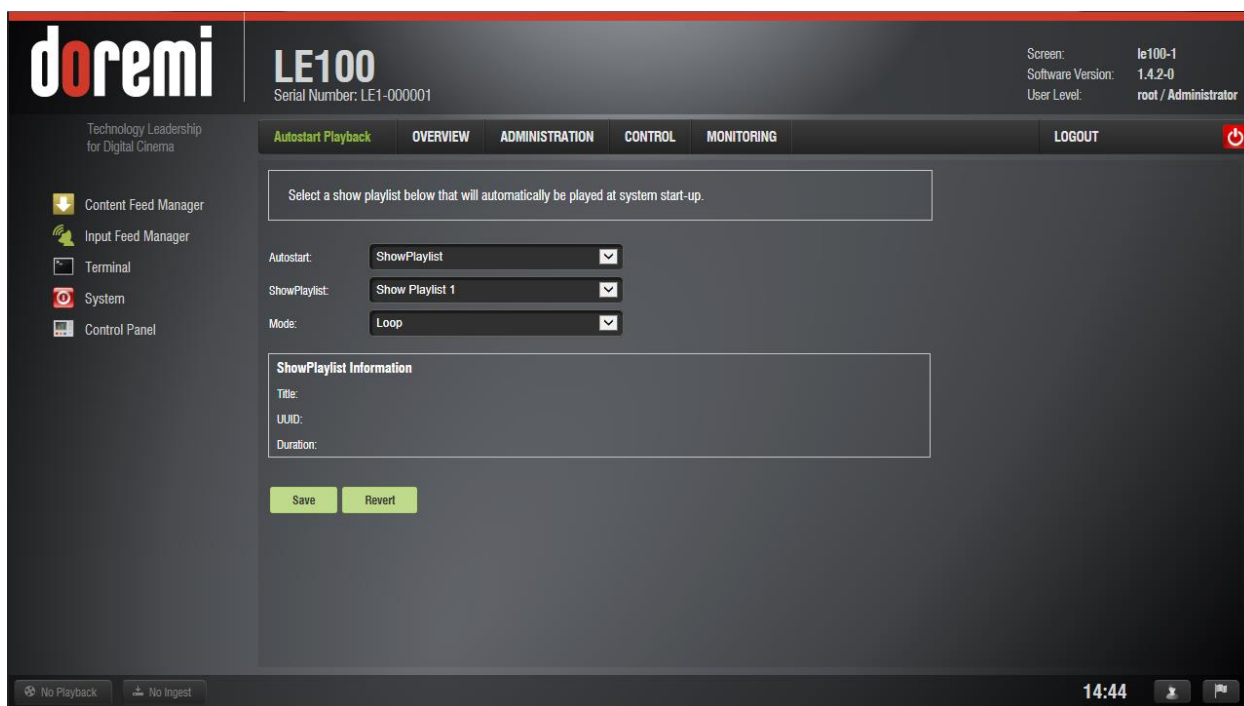

Figure 16: Control Panel – Autostart Playback
- To configure Autostart Playback, go to the Administration tab of the Web GUI and select Control Panel. From the Control Panel, select Autostart Playback (see Figure 16).